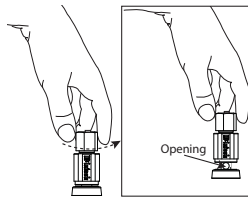

Figure 3— Opening Input Terminal
1. Rotate the end of the Input Terminal Post counterclockwise until an opening appears. Refer to *Figure 3*.
Terminal. Refer to *Figure 3* again.